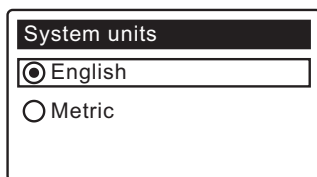

FIG. 14
3. **SYSTEM UNITS** If the desired system already has a black dot next to it (See Figure 14), go to Step 4. Otherwise, press the DOWN (▼) or UP (▲) buttons to scroll to the desired system, then press the SELECT (O) button to choose it.
4. Press the SELECT (O) button.